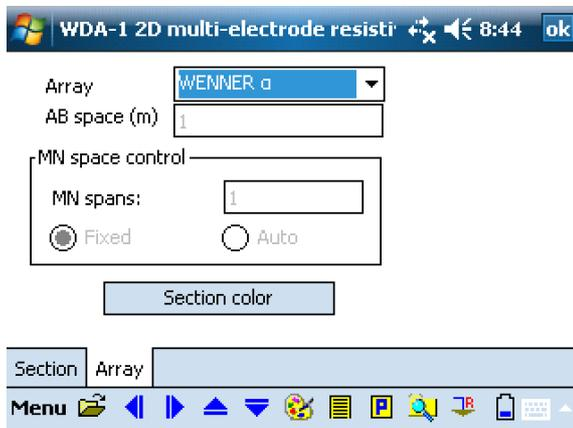

Fig. 6-7
**MN-B** are applicable for extendable cross section continuous roll-along measurement (Fig. 6-7). For detailed introduction, please refer to the attached *Electrode Array User's Manual*.